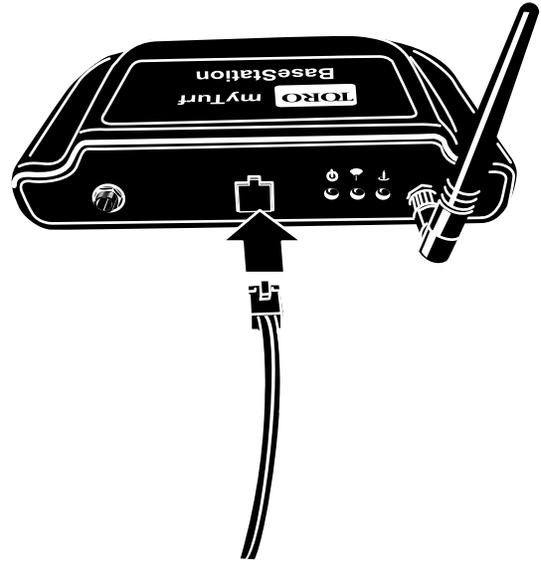

Figure 7
3. Connect one end of the ethernet cable to the BaseStation and the other to a dedicated Internet connection (Figure 7).